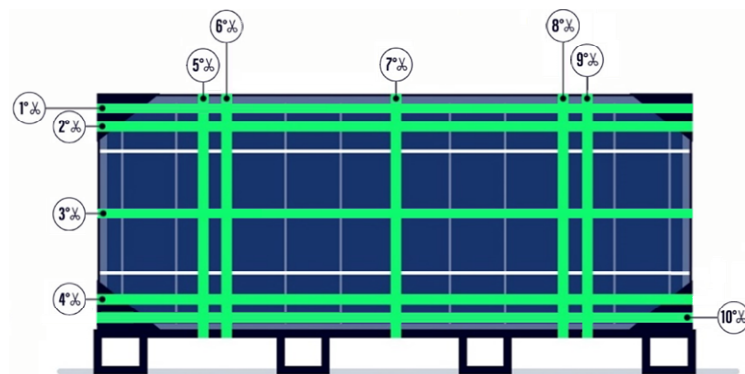

Figure 15: Positions of internal straps.
- c) Cut nine of the internal straps. First cut the horizontal straps #1, #2, #3, #4 (Figure 15), then cut the vertical straps #5, #6, #7, #8, #9, in any order. Do not cut strap #10 until step e).